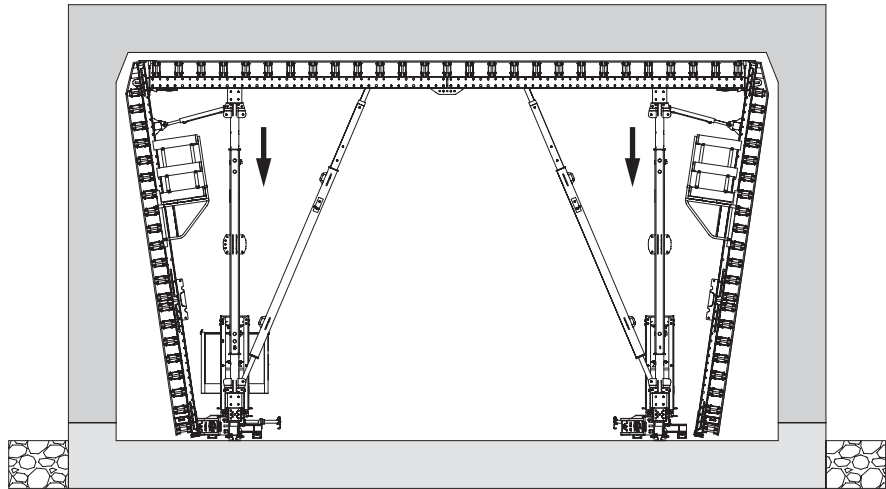

Fig. D2.04
2. Lower the tunnel formwork carriage onto the rail. (Fig. D2.04)